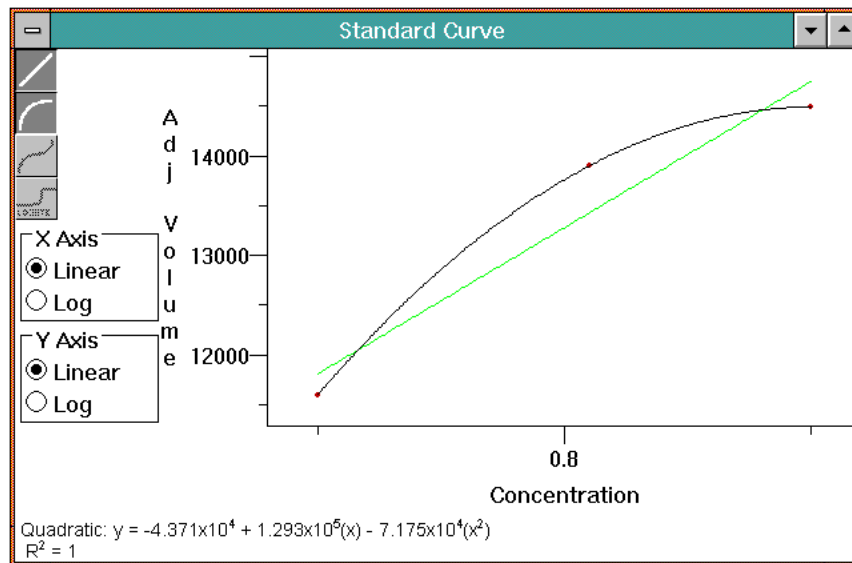

Figure 16. Linear and quadratic regression standard curves
With the volume report displayed, we will now generate a standard curve and calculate the concentration of the unknown as specified by the regression analysis. To generate the standard curve(s) and calculate the value of the unknown, click on the *OPTIONS* menu and select the command *Concentration Standard Curves*. This will display the plot of the standard curve(s) (Figure 16). Notice within the standard curve is a legend with linear, quadratic, cubic, and logistic curve icons, as well as, a legend for logarithmic or linear X and Y axis. Clicking on each icon will display or hide the curves fit. Linear Regression requires a minimum of two (2) standard data points, Quadratic Regression requires a minimum of three (3) standard data points, and Cubic Regression analysis requires a minimum of four (4) standard data points. Four Parameter Logistic Regression analysis requires a minimum of five (5) standard data points. Given 3 standard data points, both a Linear and Quadratic curve will be displayed.